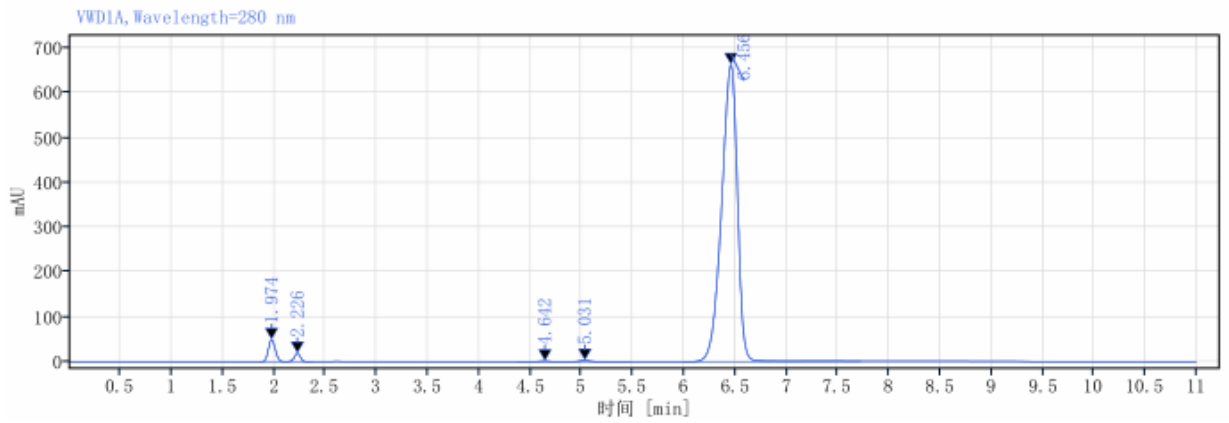

Fig. 1 Typical HPLC-Chromatogram of Propineb standard
2.1 HPLC. Use the reversed phase HPLC method below. The relative retention time of the propineb peak in the sample solution should not differ by more than 1.5% from that of the calibration solution (Fig. 1 and 2).